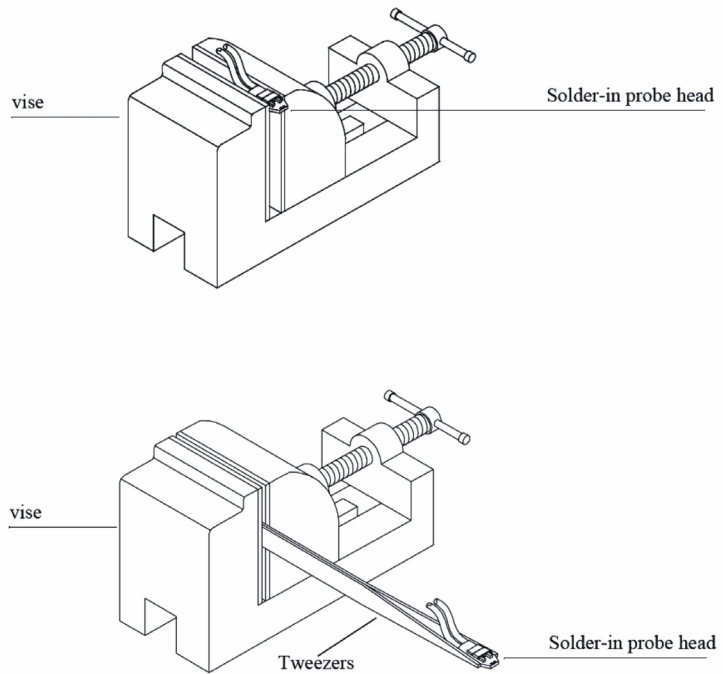

Figure 3-10 Holding tip with vise
- 1 Use the vise or clamp to position the tip an inch or so off the work surface for easy access. If using a vise, grip the tip on the sides with light force. If using a tweezers clamp, grip the tip either on the sides or at the top and bottom. See Figure 3-10.